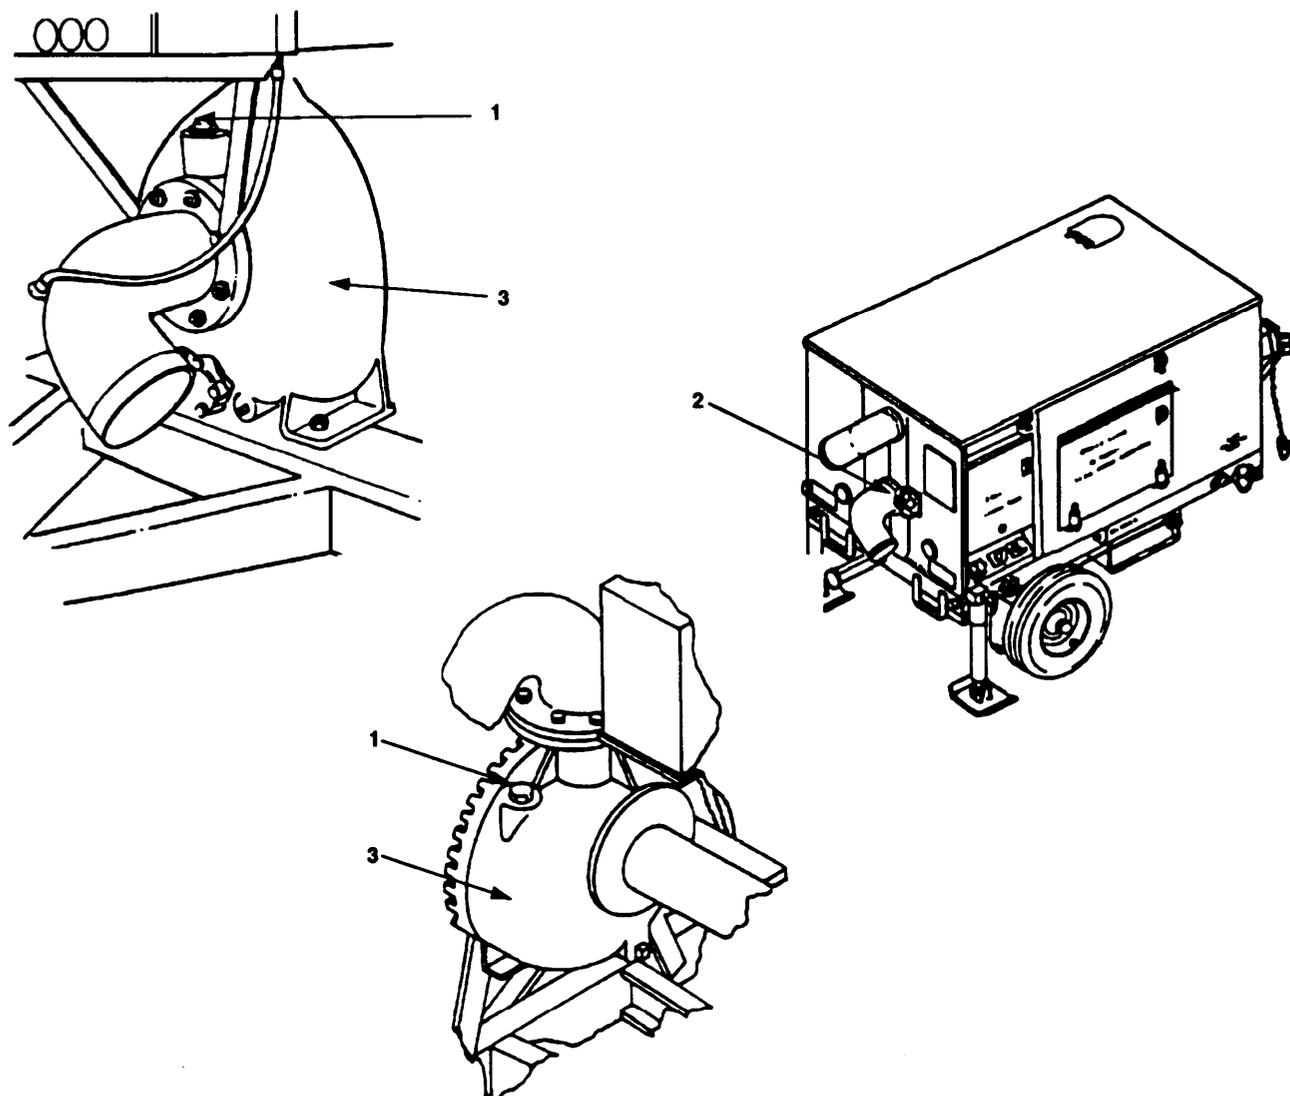

Figure 2-17. Priming Pumping Assemblies.
2.4.1 Priming of Lead Pump. Refer to Figure 2-17 and prime the pumping assembly as follows:
- a. Remove fill plug (1) or priming port cap (2).
- b. Fill pump casing (3) with water to bottom of fill plug hole.
- c. Install fill plug (1) or priming port cap (2).